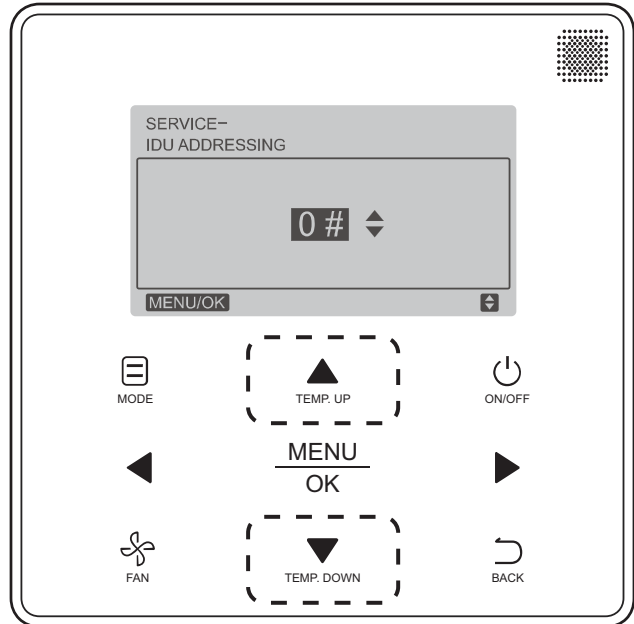

Fig. 39 — Programmable Controller (40VM900003) Setting IDU Address
3. Press **TEMP. UP** or **TEMP. DOWN** to choose the address you want to set (see Fig. 39). Press **MENU/OK** to send this address to the IDU.